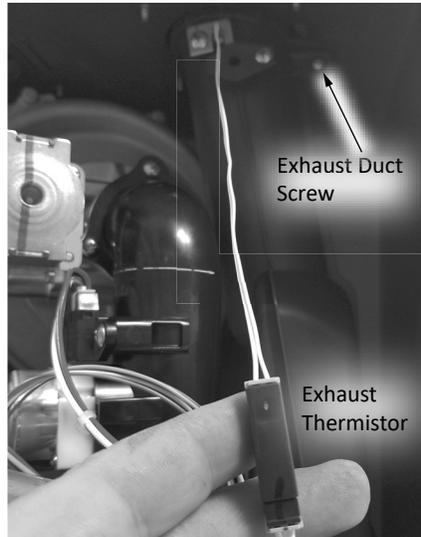

Figure 66: Exhaust Thermistor.
- 22 Disconnect the exhaust thermistor (# 718) and move the wires aside. Remove and set aside the screw securing the exhaust duct to the top of the water heater enclosure. See Figure 66.
reconnect the exhaust thermistor. See Figure 66 on page 57.